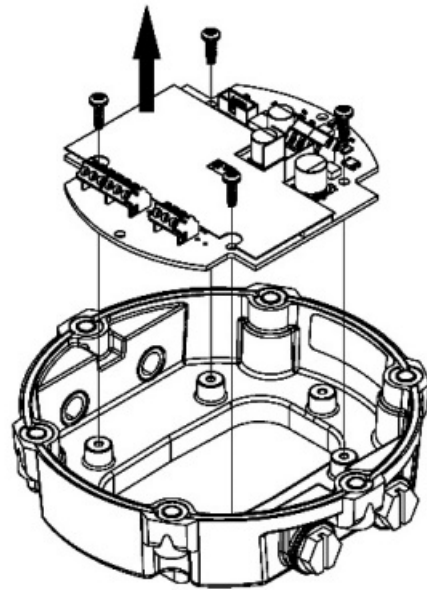

Figure 13
- Flip the cover plate over and remove (4) screws retaining the PC board assembly (see Figure 13).